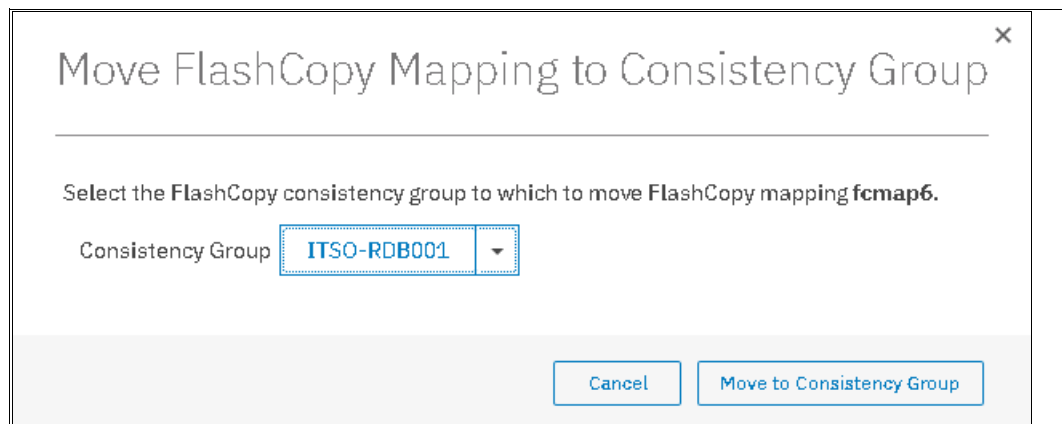

Figure 10-45 Move FlashCopy mapping to Consistency Group window
- In the Move FlashCopy Mapping to Consistency Group window, select the Consistency Group for this FlashCopy mapping by using the drop-down list (see Figure 10-45).